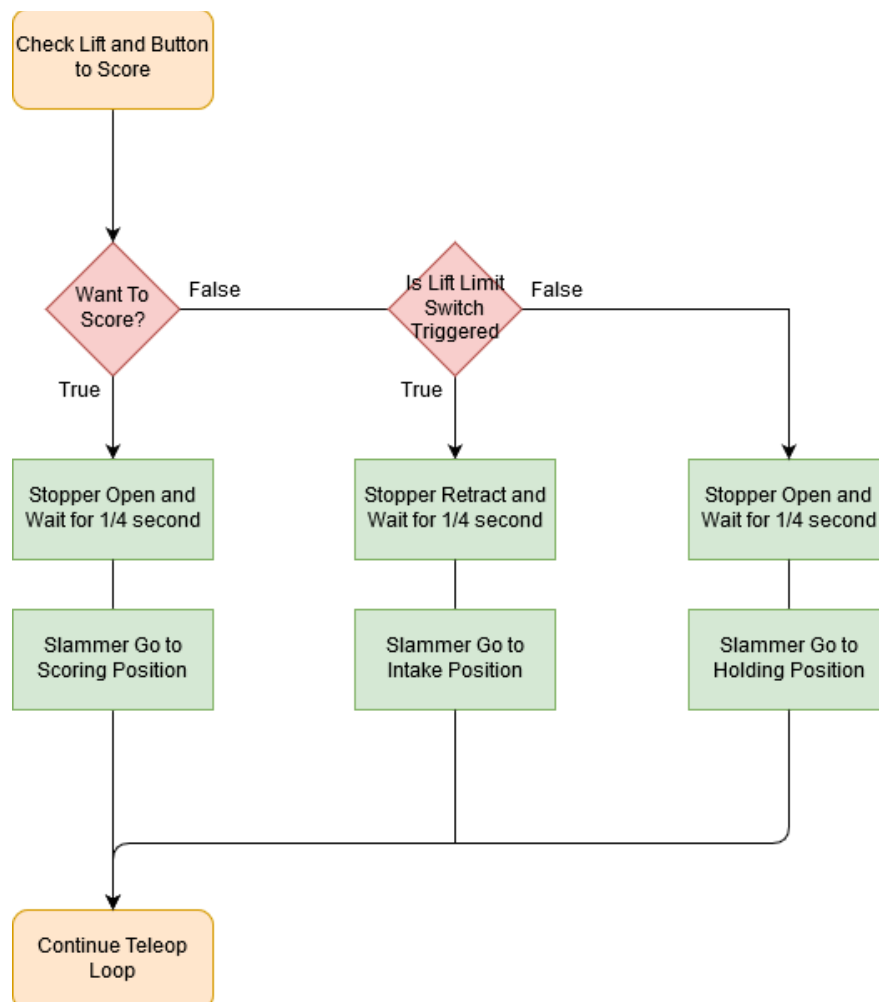

Figure 1-1
- Figure 1-1 shows this process.